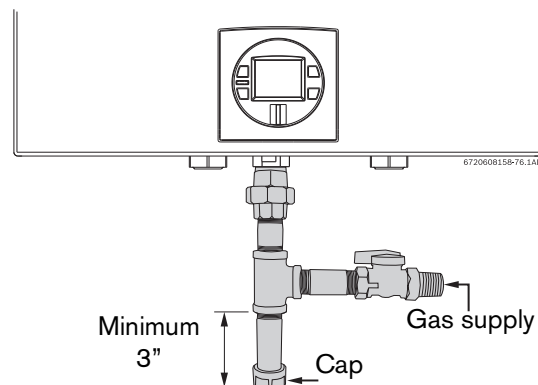

Fig. 27 Gas connection (drip leg)
- ▶ National Fuel Gas Code requires that a sediment trap (drip leg) be installed on gas appliances not so equipped. The drip leg must be accessible and not subject to freezing conditions. Install in accordance with the recommendations of the serving gas supplier, see Fig. 27.